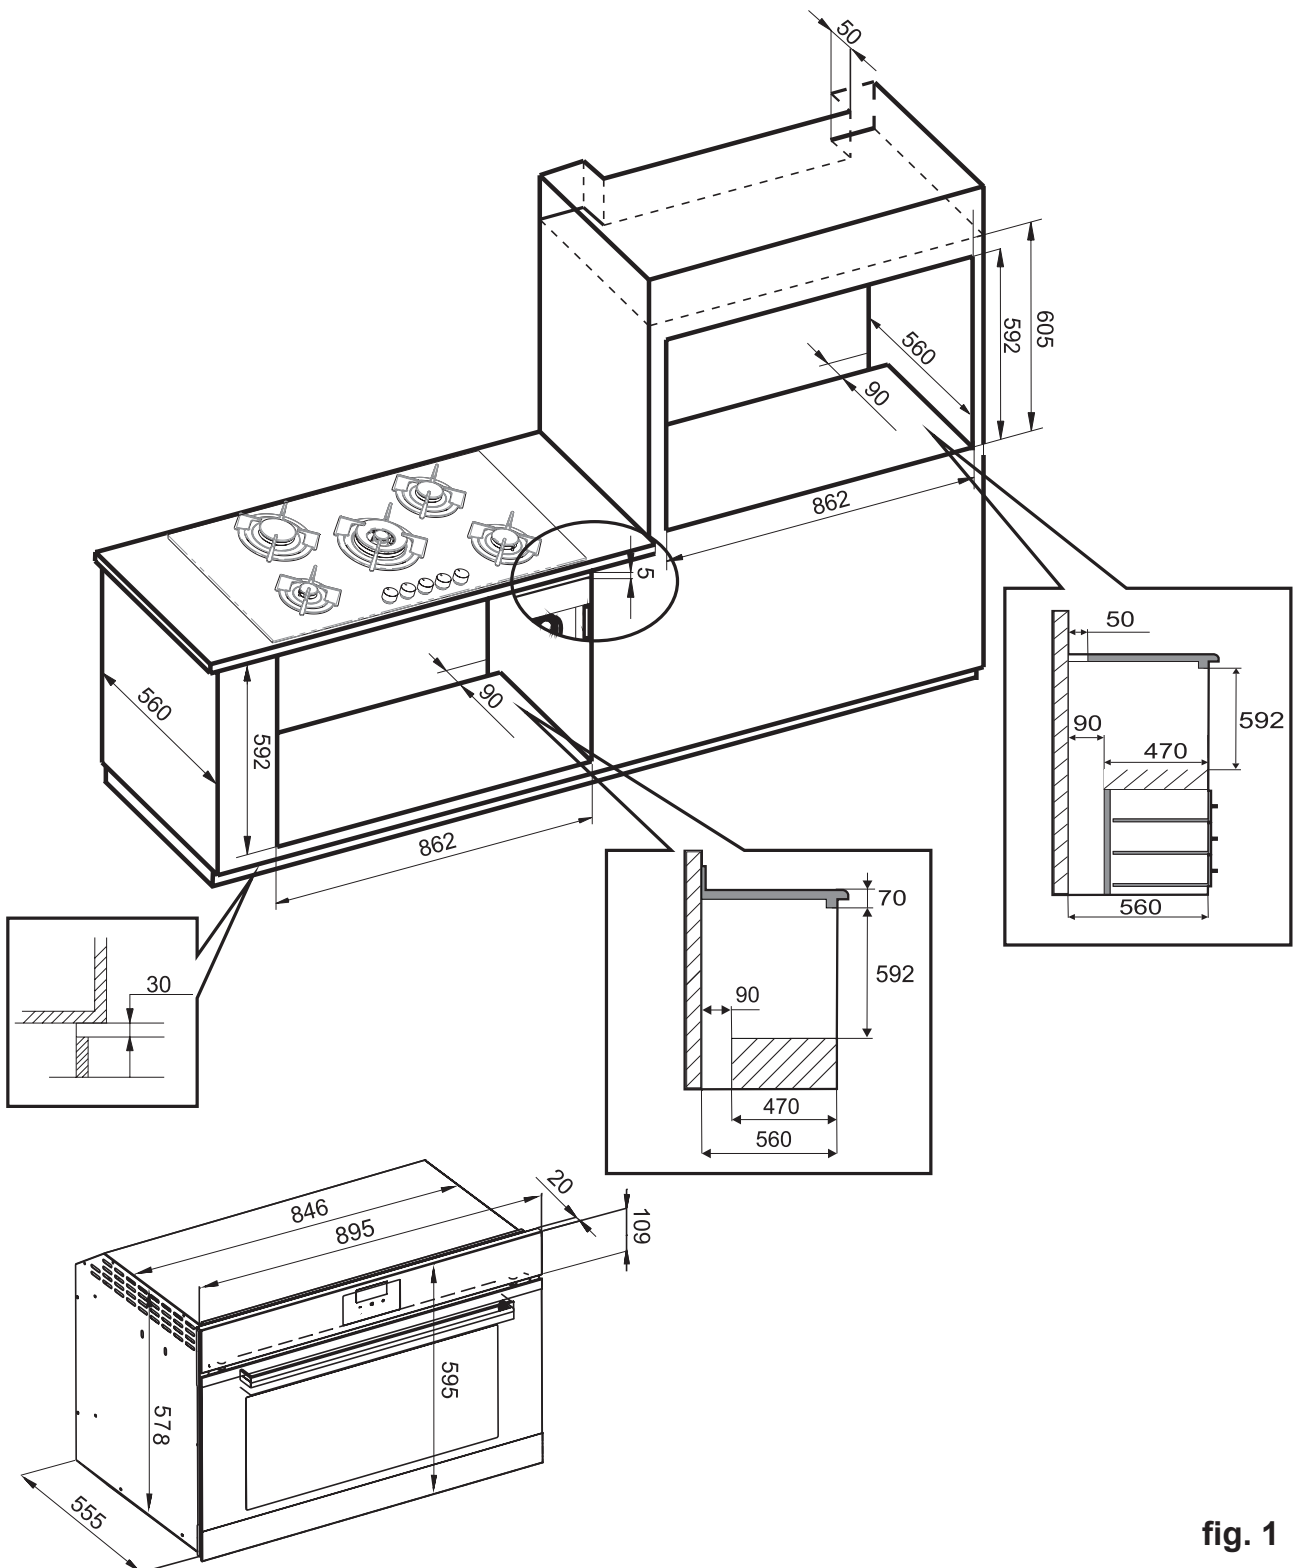

fig. 1
- The dimensions of the housing for the oven are given in fig 1.
- The dimensions of the housing for the oven are given in figure 1 (see page 9).